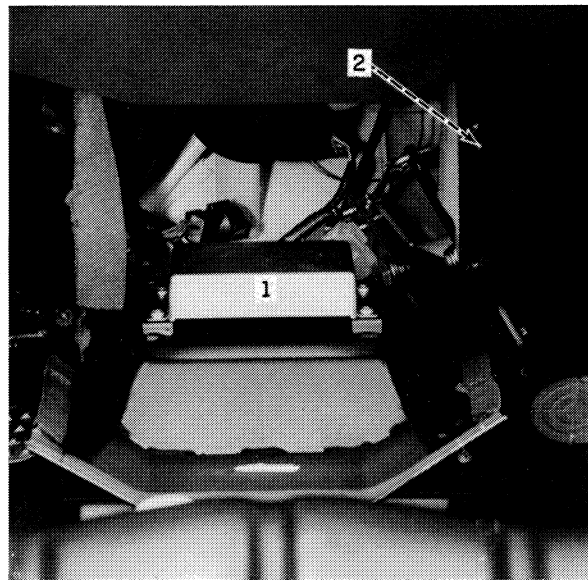

FIGURE 9-15
2. Remove the front access panel and disconnect the transmission module, Figure 9-15.
3. Loosen the throttle rod clamp and slide the upper throttle rod up out of the console, Figure 9-15.